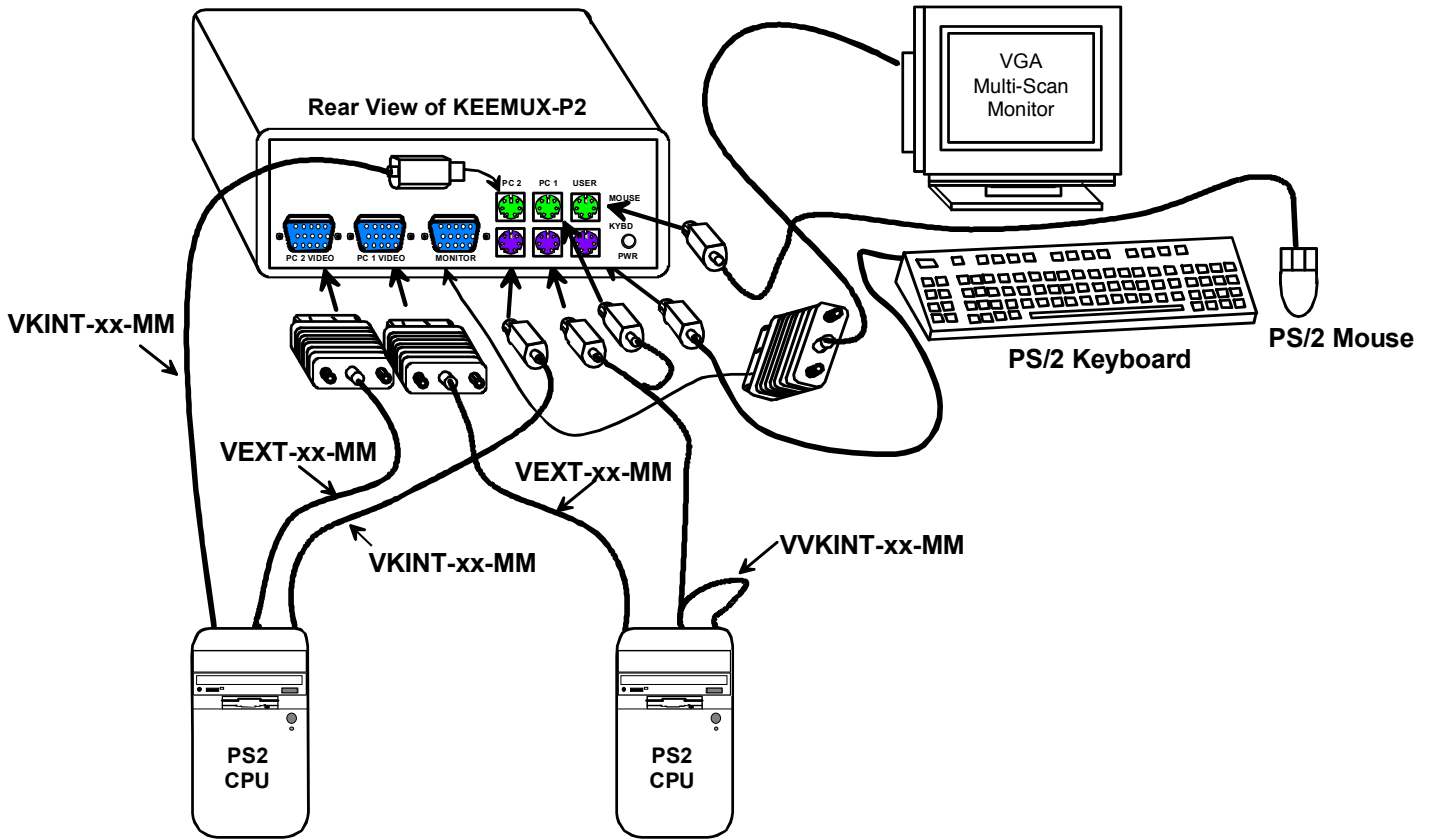

Fig. 1
2. Connect PS/2 keyboard to "USER KEYBD" port on the rear panel of the switch. (See Fig. 1)